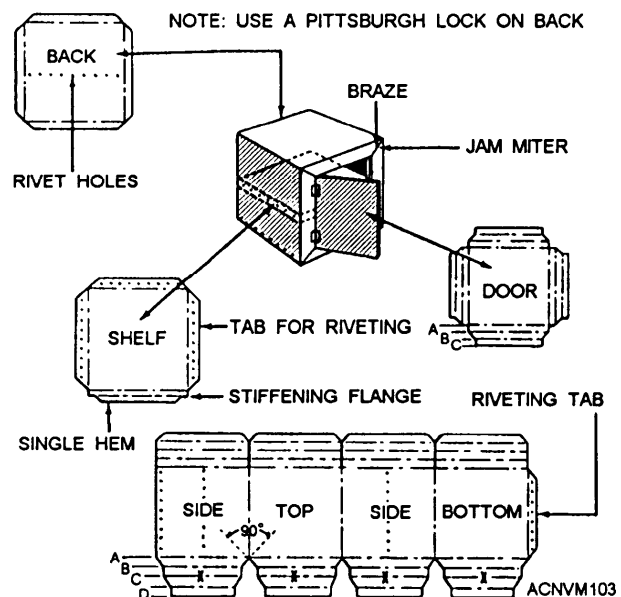

Figure 12-103.—Fabricating a locker.
Figure 12-103 shows a locker that has one riveted shelf. The locker is assembled by using Pittsburgh lock seams and rivets. The door is flush to the front side and is swung on exposed hinges. A hasp and staple are used as a securing device.
1. The size of the door in its relation to the size of the locker. (The difference between the size of the door and the size of the locker controls dimension A in fig. 12-103.)
2. The thickness of the door. (This controls dimension B in fig. 12-103.)
3. The width of the stop (C in fig. 12-103). Normally the stop is about $\frac{3}{8}$ inch to $\frac{1}{2}$ inch in width.
4. The allowance for the single hem (D in fig. 12-103). This allowance will be slightly less than that of the stop.
1. Transfer the lines of the jamb (indicated by X in fig. 12-103) to the reverse side of the sheet.
4. Remove the sheet from the brake and turn it over so that the layout lines are up. Reinsert the sheet in the brake and form the flange for the stop (C in fig. 12-103).
5. Remove the sheet again. This time, with the layout lines down, insert the sheet in the brake and form the depth of the jamb (B in fig. 12-103).
6. Slide the sheet out to the next line and form A (fig. 12-103).